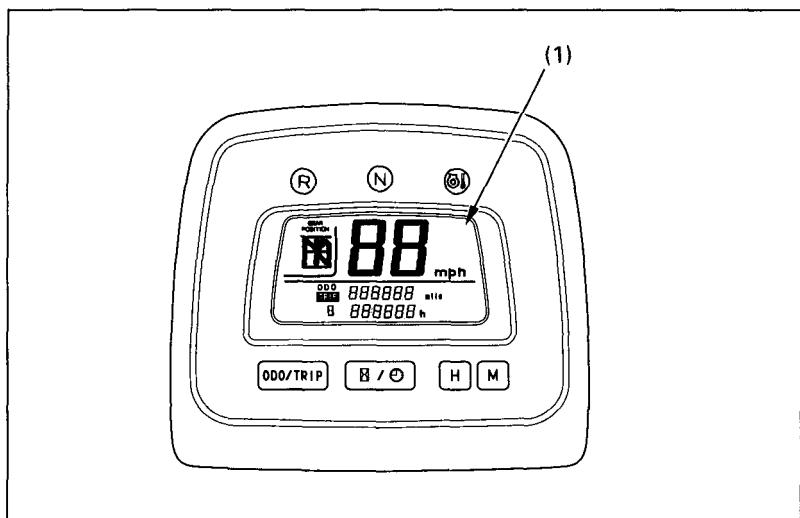

Fig. 2-15 (1) Multi-function display
When the ignition switch is turned ON (I), the display (1) (Fig. 2-15) will temporarily show all the modes and digital segments so you can make sure the liquid crystal display is functioning properly.